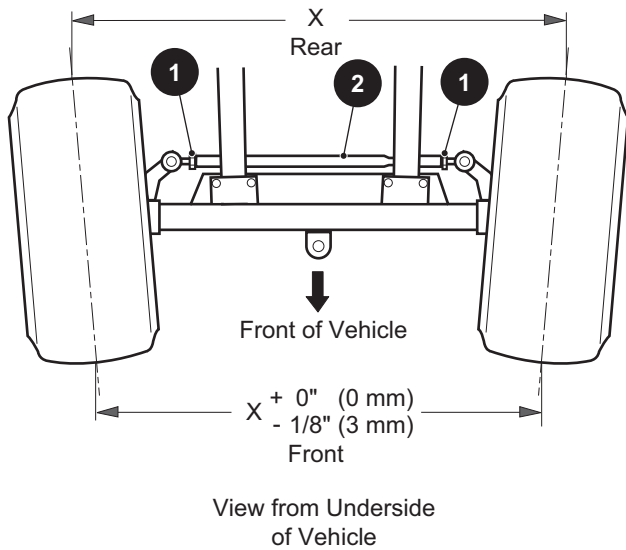

Fig. 3 Wheel Alignment
5. Measure the distance between the chalk lines at both the front and the rear of the tires (Ref Fig. 3).